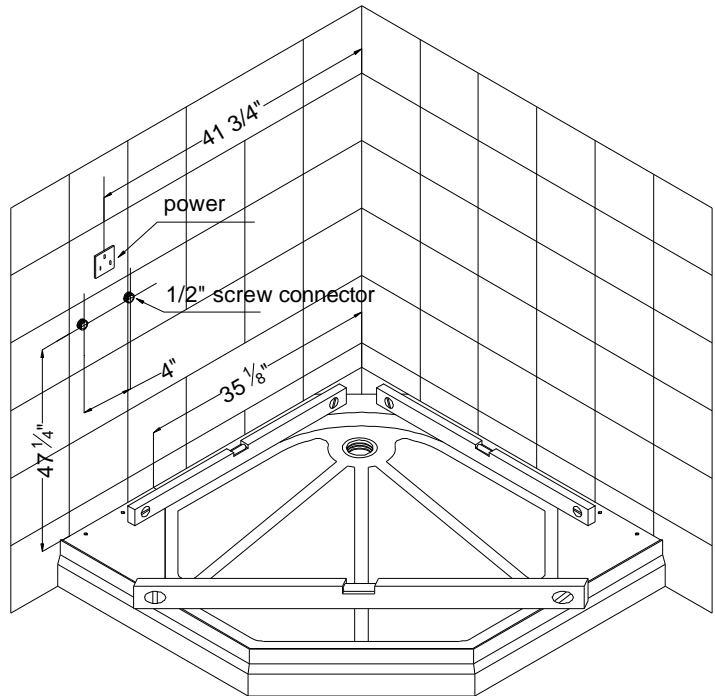

Fig 4
4. Move the **Tray (06)** to the required position. Check the level of the tray, alignment of the drain pipe and the drain (Fig 4). If drain pipe need to be adjusted do it now. If tray in not leveled, move tray out and re-level floor. Place tray back and check it again.
5. Install the water outlet and power supply box. You need 1/2" minimum water supply lines for hot and cold water with shout off valves. **Power supply is required 20A 220v dedicated #12/3 romex wire line with GFCI breaker. Please check your local codes before wiring as your local requirements may be different.** (Note: Figure 4 shows water and power location for the control panel to be installed on the left side of the tray.)
***Your unit is reversible for right or left hand installation. If the control panel is planned to be on the right side of the tray, the location of the water outlet and power supply box should also be moved to the right side of wall. See Fig 4 for details.***